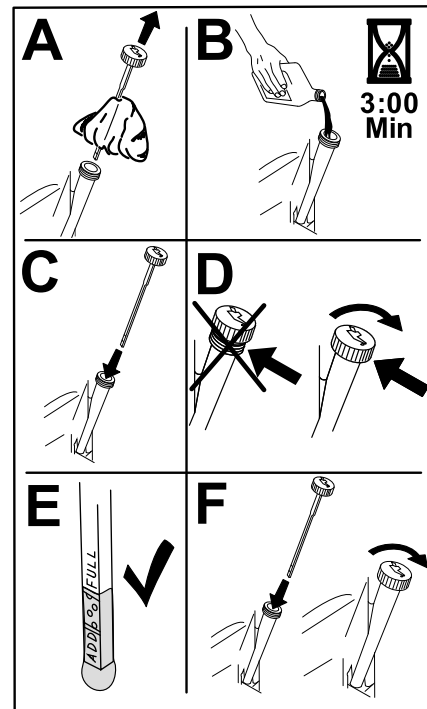

Figure 41
- Slowly pour approximately 80% of the specified oil into the filler tube and slowly add the additional oil to bring it to the **Full** mark (Figure 41).